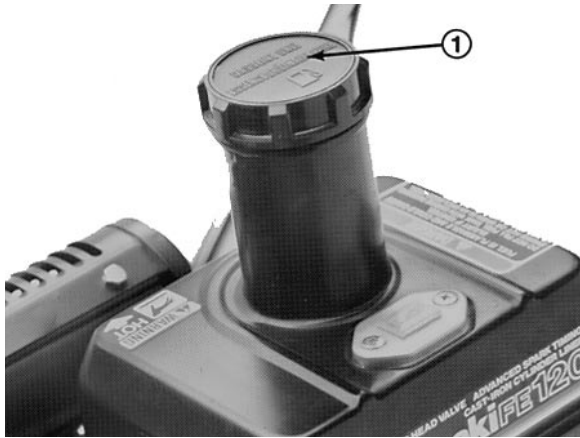

Figure 2
1. Clean around the fuel tank cap and remove the cap from tank (Fig. 2). Using unleaded gasoline, fill the fuel tank no higher than to the bottom of the filter screen. **DO NOT OVER FILL.**